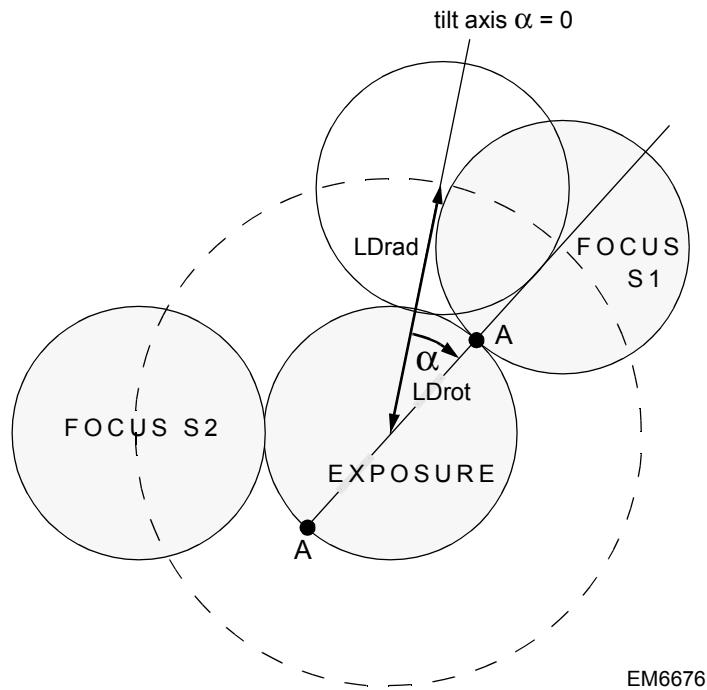

Fig. 2.9. Focus and EXPOSURE mode. Shaded circles correspond to the viewing screen
- Adjust image shift as desired (MF-X,Y). To set an image shift to zero, press the **Reset** button. First shift the image with the **Multifunction** knob MFy (LDrad) to an off-axis position which does not overlap with the EXPOSURE state. In practice this could be done by shifting an image feature on one edge on the viewing screen to the opposite side, as illustrated in figure 2.9. The **Multifunction** knob MFy is used to define the radius of a circle. This radius gives the distance between the EXPOSURE state and the **Focus** state and has to be big enough to prevent overlapping. Once adjusted one can now use the **Multifunction** MFx to change the position (rotation angle) on this circle to find a good image feature for focusing, while the